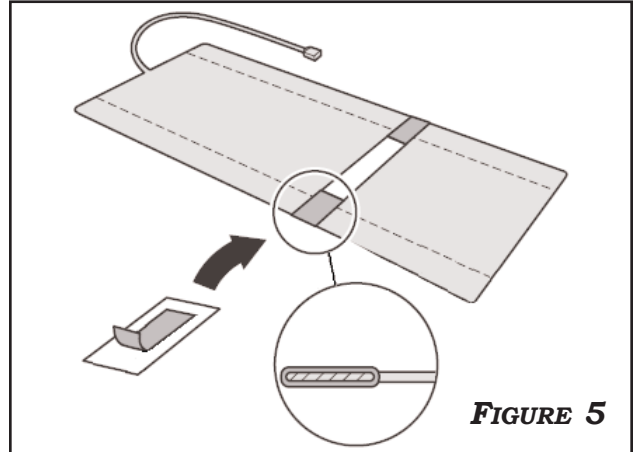

FIGURE 5
5. USING THE SUPPLIED FELT TAPE, WRAP THE EDGE OF THE CUT OUT WINDOW AS SHOWN IN **FIGURE 5**.